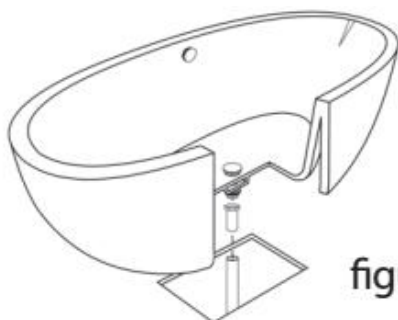

figure 13
18. Carefully set tub into position (figure 13) and connect the drain